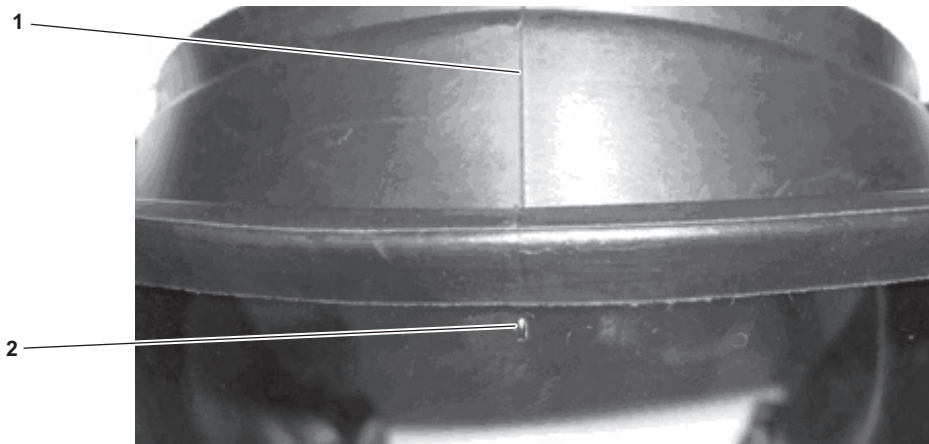

Figure 6-21. AV-3000® Faceseal Alignment with Lens
- (3) Align the forehead centerline mark on the faceseal (figure 6-21, item 1) with the forehead alignment mark on the lens (figure 6-21, item 2).
- (4) Insert the lens (figure 6-21, item 2) fully into the groove of the faceseal (figure 6-21, item 1).